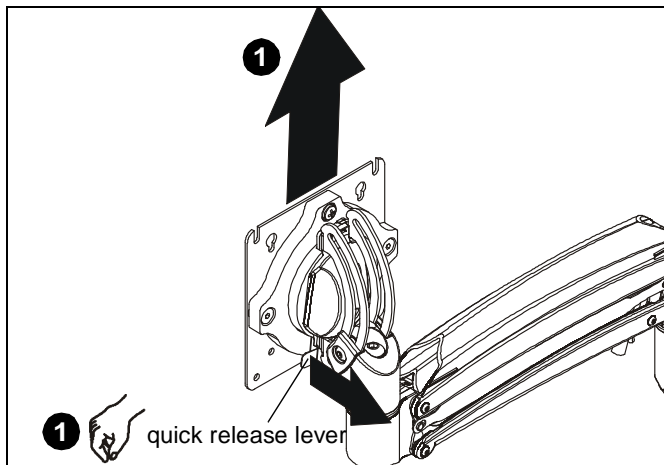

Figure 6
- Remove quick release faceplate from mount by pulling quick release lever and sliding faceplate off mount. (See Figure 6)